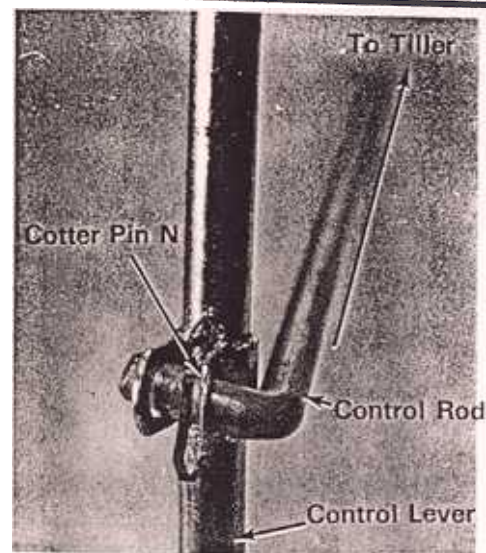

Figure 6
- Warning:** Be sure the attachment holes on the control lever face the rear. If the handle is assembled wrong you will not have a neutral. (See figure 6.)